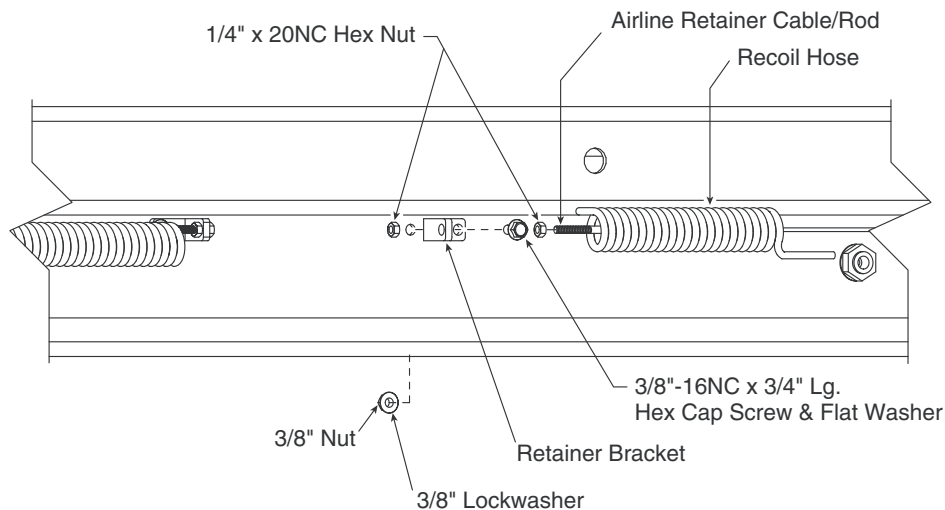

Fig. 30
- A. Attach retainer brackets for the rear recoil hose with 3/8"-16NC x 3/4" Lg. hex cap screw, flat washer, lock washer and nut, Fig. 30.
- B. Insert retainer cable through coils of recoil hose, Fig. 30. Run a 1/4"-20NC hex nut down onto each end of retainer cable. Insert each end of cable into retainer brackets. Secure each cable end with another 1/4"-20NC hex nut. Tighten jam nuts, Fig. 30.
- A. Insert retainer cable through coils of recoil hose, Fig. 30. Connect one end of recoil hose to coupling welded on rolling jack, Fig. 33 and 34.